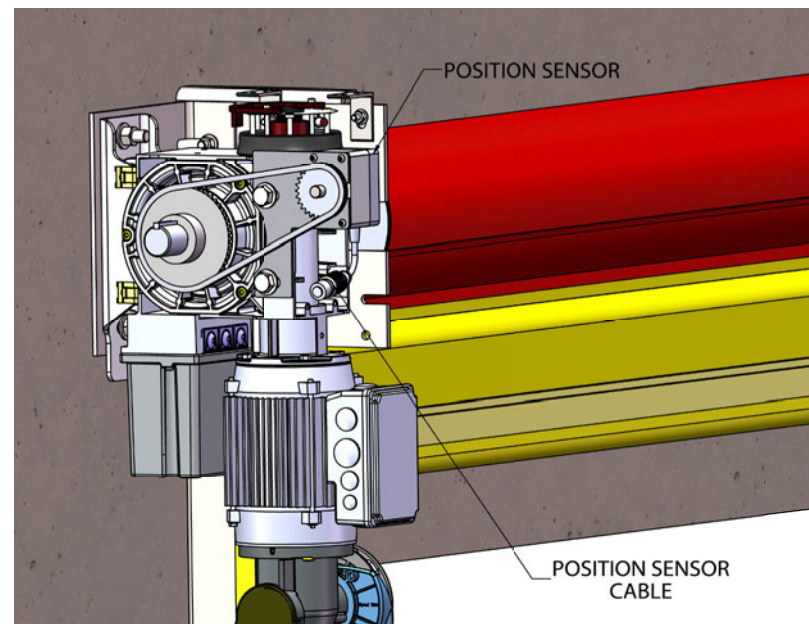

Figure 22
- Install wiring per wiring diagram FIG 22 page 19.
The Position Sensor comes pre installed to the motor. See Figure 22 for location.